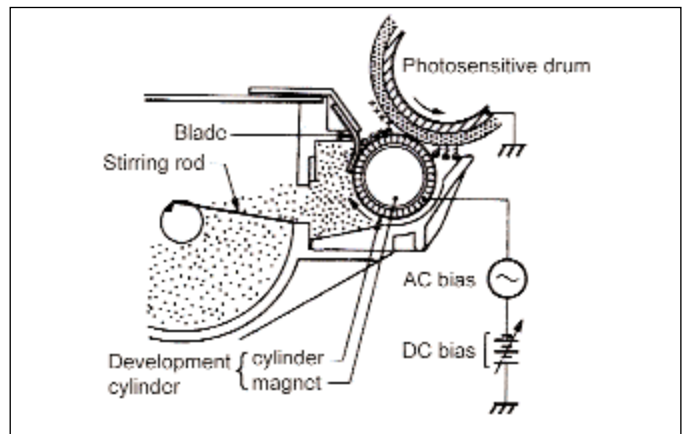

Figure 6
- 4) Developing. See Figure 6.